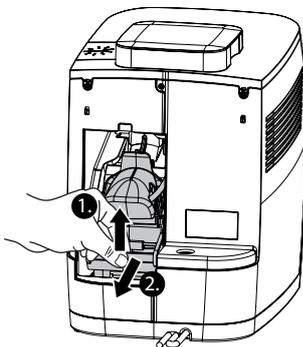

fig. 15: Pulling out the brewing unit
4. Pull the red lever of the brewing unit upwards and pull the brewing unit downwards at an angle out of the machine (fig. 15).